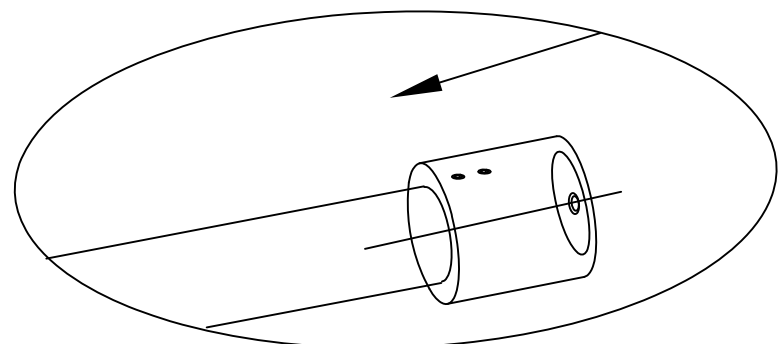

Fig. 5
5. Slide the Rail End Assembly (5) (6) on to end of Top Rail (2) to be connected shower wall. Loosely tighten the Rail End Assembly (5) into place on Top Rail (2) making sure the rail end assembly is fully engaged on top rail. Repeat for the other side. See Fig.5 for details.